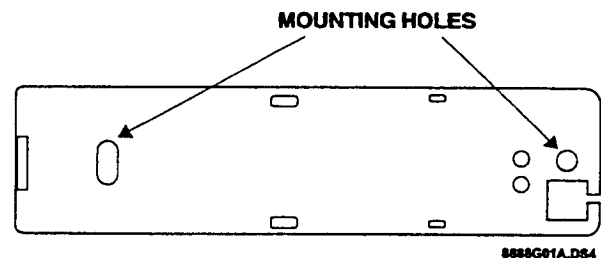

Figure 11. Mounting Hole Locations (Bottom View)
3. Mount the sensor base with two #6 flathead screws at the locations shown in Figure 11.